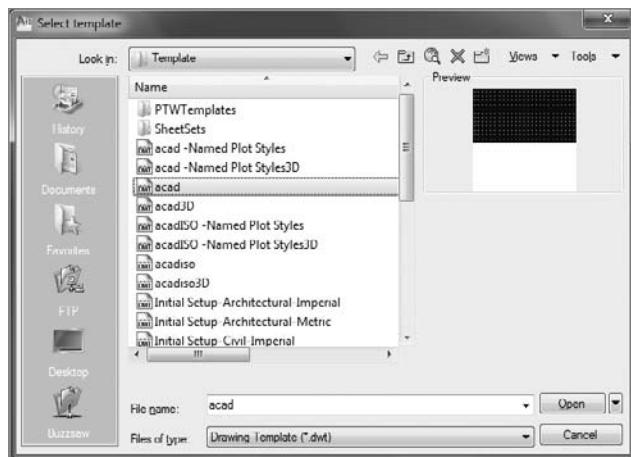

FIGURE 2.5 Choose the `acad.dwt` template in the Select Template dialog box.
1. Click the New button at the left end of the Quick Access toolbar. In the Select Template dialog box, select the `acad.dwt` file, if it's not already selected, and click Open, as shown in Figure 2.5. The menus, crosshair cursor, and toolbars return, and you now have a blank drawing in the drawing area.